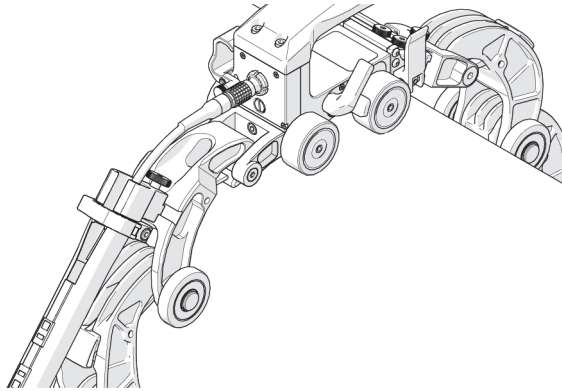

Figure 3-11 Attach cable management
10. Attach the cable management and route cables as required (see Figure 3-11 on page 87 and “Cable Management System” on page 66).